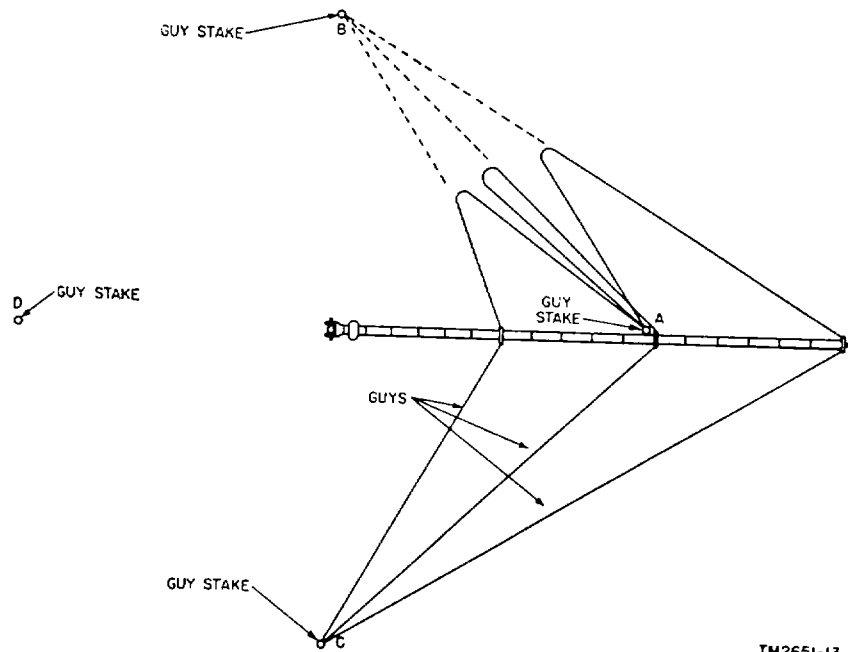

Figure 14. Attaching guys.
d. *Guys* (fig. 14). The guys are color-coded for immediate identification: top, red; center, white; lower, blue. Each guy plate has four holes 90° apart for attaching the guys. A fifth hole is provided for connection of a halyard and should be kept in the direction of the antenna when the halyard is to be used. Connect the guys as follows:
- (1) Connect the guys for stake A first. Attach the snap hook of each guy to the corresponding hole of the proper guy plate.
- (2) Stretch the guys out to stake B to measure for the correct adjustment. Adjust each guy by means of Fastener FT-9.
- (3) Carry the free end of each guy back to stake A and fasten it, be careful not to tangle the ropes.
- (4) Attach the guys for stakes B and C. Attach each set of guys to the corresponding holes of the guy plates and to stakes B and C; make the proper adjustment with the fittings. When tightening the guys, do not bend the mast pole.
- (5) Connect three guys for stake D to the corresponding guy plates, and stretch the guys along the mast toward stake D. If a halyard is used, fasten the halyard pulley to the fifth hole of the top guy plate, and tie the two ends of the halyard together to prevent the halyard from running through the pulley.